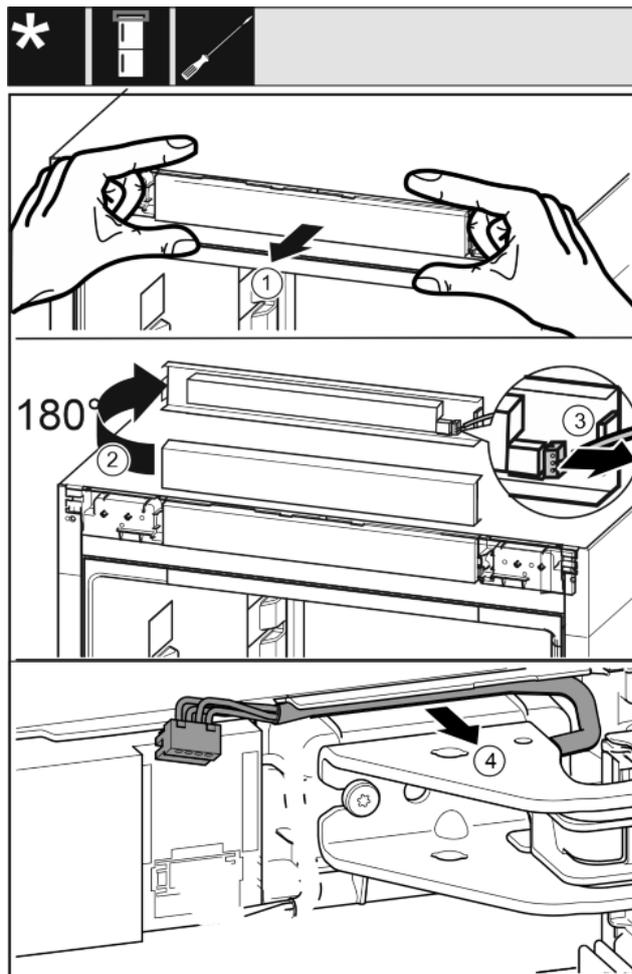

Fig. 15
- ▶ Pull out the control panel of the appliance to the front carefully. Fig. 15 (1)
- ▶ Turn the control panel upwards by 180°. Fig. 15 (2)
- ▶ Push the latching lug back and pull out the plug carefully. Fig. 15 (3)
- ▶ Carefully pull out the cable over the bearing bracket out of the guide. Fig. 15 (4)